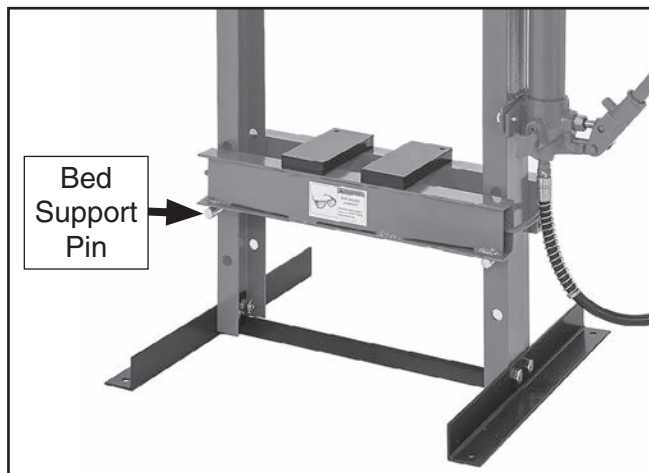

Figure 17. Typical arbor plate positioning.
22. Position the bed on the bed support pins, and place the arbor plates on the bed, as shown in **Figure 17**.